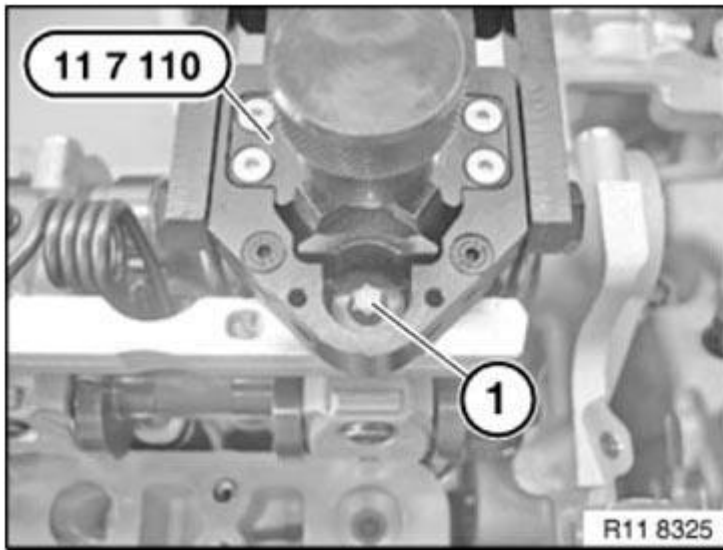

Fig. 658: Positioning Return Spring
Return spring (1) is positioned correctly when catches (see arrows in **Fig. 658**) are surrounding return spring (1).